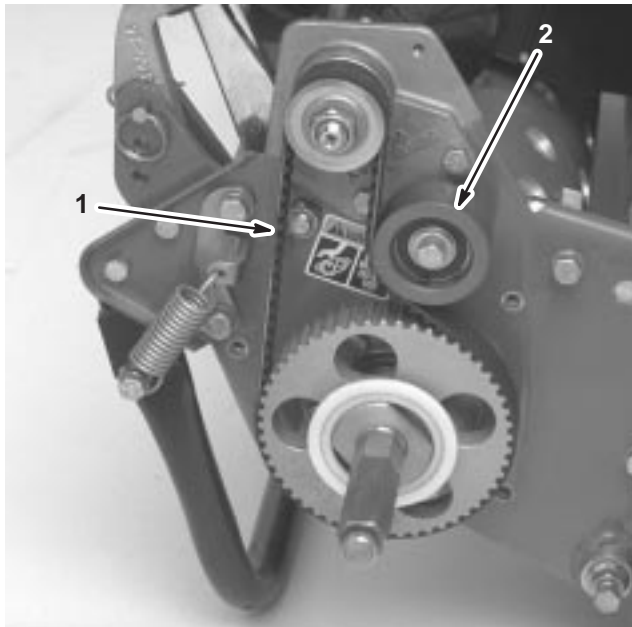

Figure 38
2. Loosen the idler pulley mounting nut and pivot the idler pulley clockwise against the backside of the belt until the desired belt tension is attained (Fig. 38).